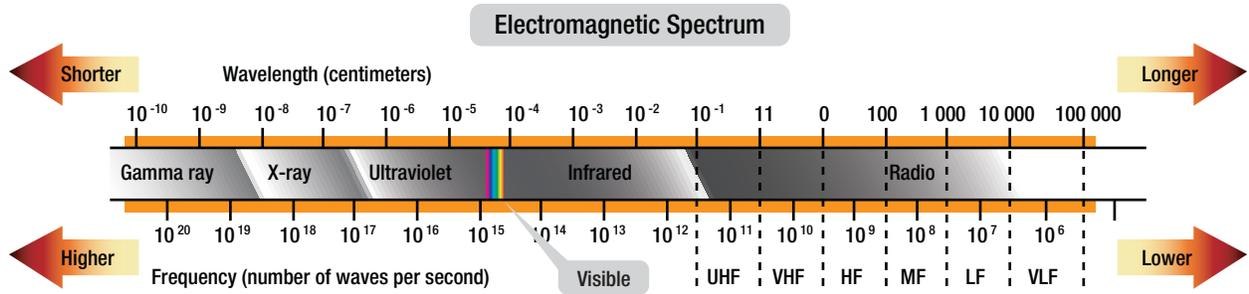

Figure 4-1. Radio waves are just some of the electromagnetic waves found in space.
Light is a form of electromagnetic radiation. It is part of the wide spectrum of electromagnetic radiation that surrounds us at all times. Visible light is a relatively small part of the spectrum. (Figure 4-1)
The wavelength of visible light is usually measured in a unit called the Angstrom (A):  $1A = 10^{-10}m$ . Various colors of visible light have characteristic wavelengths. They also have characteristic frequencies since the frequency of light  $\times$  wavelength = speed of light. With symbols this is written  $f\lambda = c$ . Figure 4-1 lists various colors of light and their respective wavelengths.